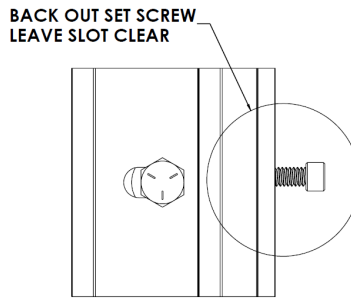

Figure 131: **Loosen the Ceiling Bracket Set Screw So No Threads are Visible in the Bracket Channel**
a. Loosen the set screw on the ceiling bracket so no threads are visible in the bracket channel (Figure 131).